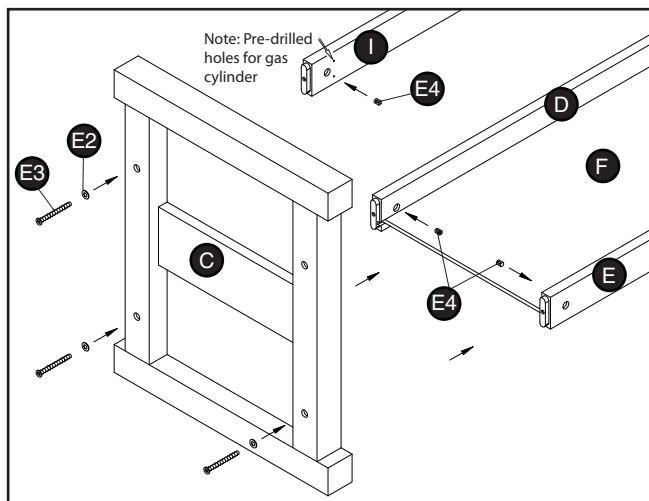

Figure 5. Left leg installation.
6. Position the left side leg (C) on the floor and install the remaining (E4) barrel nuts into cross braces (D, E, & I) (**Figure 5**), and install cross brace (I) into the right leg.